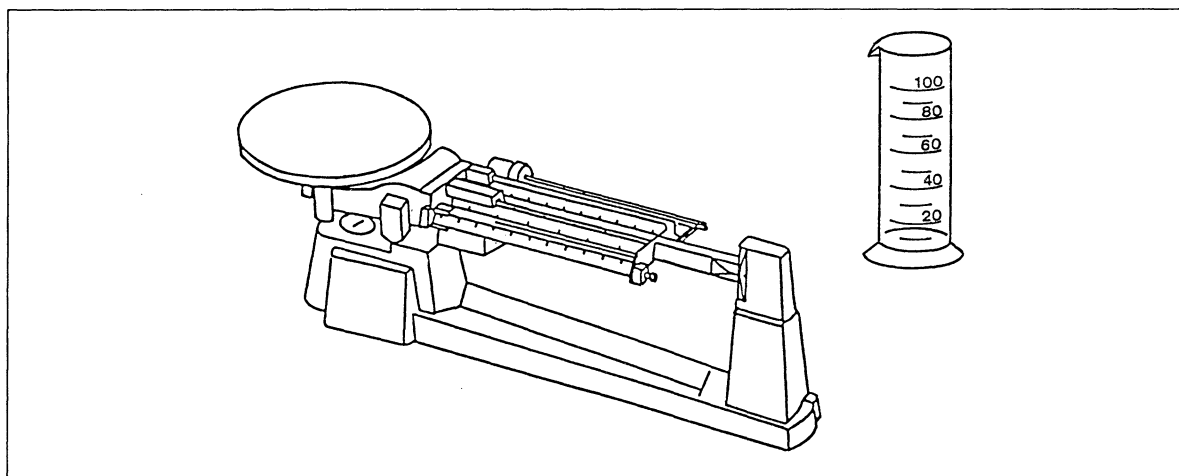

Fig. 1 Experimental apparatus
1. Lay out the apparatus ready for use, as shown in fig. 1.